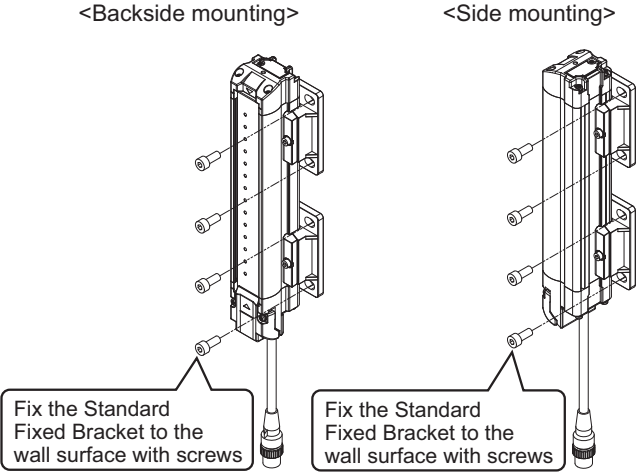

Fig. 4
- 4. Securely tighten the screws to fix the Standard Fixed Bracket to the mounting position of the wall surface. (Fig. 4)